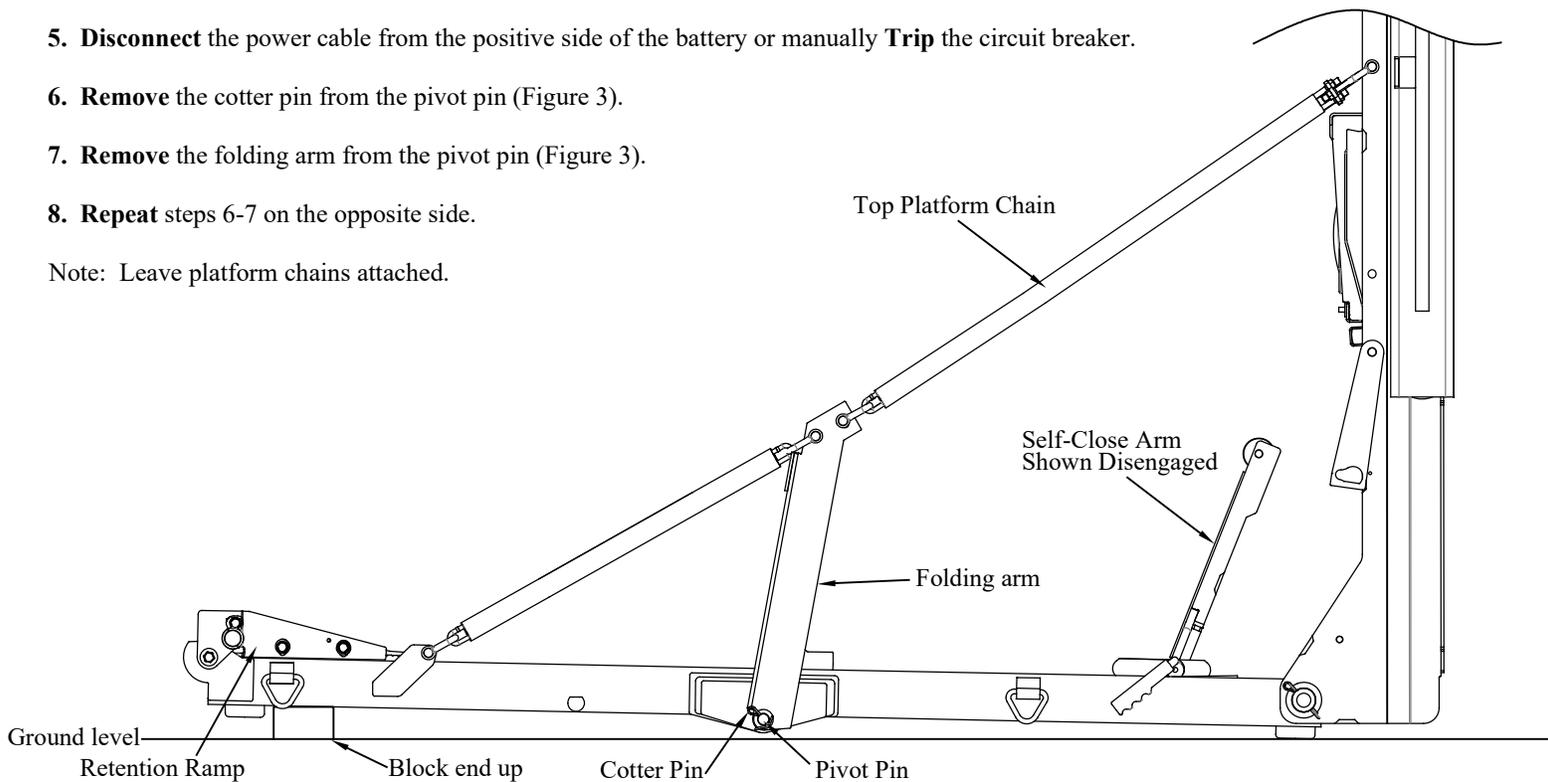

Figure 3: Bifold Platform lowered with slack in chains.
3. Lower the liftgate until the platform is fully opened and the self close arm is disengaged (Figure 3).
4. Lower the liftgate until the platform is resting on the ground with the retention ramp/taper end slightly higher than the hinge end to allow the platform chains to hang loose (Figure 3).
6. **Remove** the cotter pin from the pivot pin (Figure 3).
7. **Remove** the folding arm from the pivot pin (Figure 3).